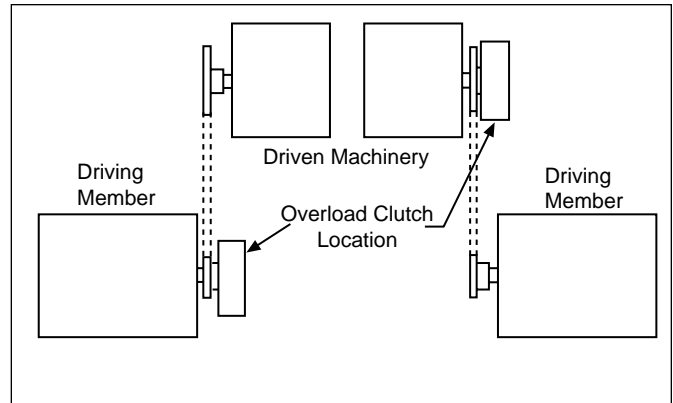

FIGURE 11
a. Either location of the clutch shown in Figure 11 is **preferred** in indirect drive applications.